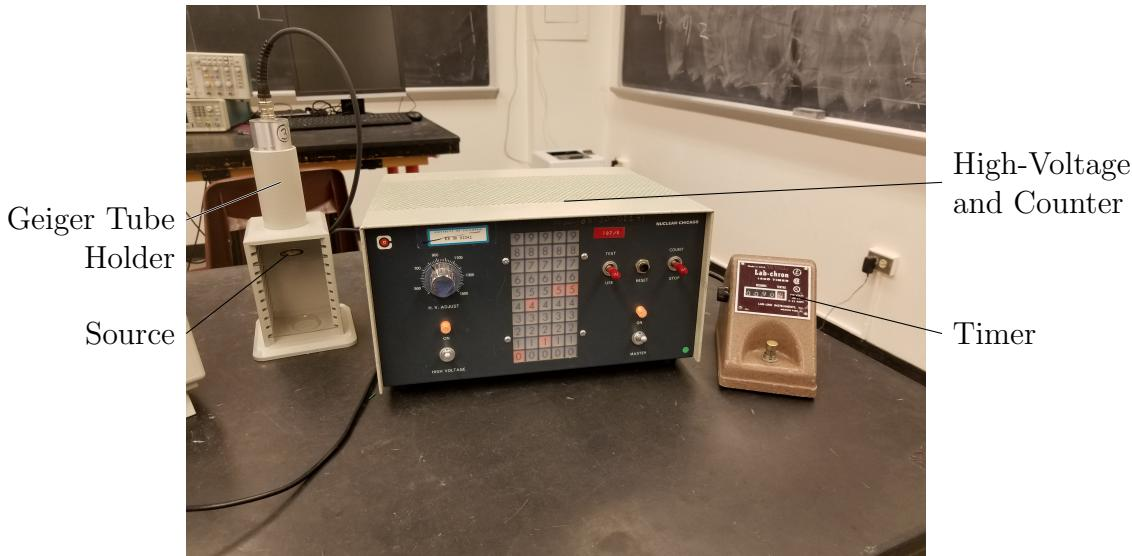

Figure 8.2: The Geiger Counter assembly.
To begin, you will familiarize yourself with the counter and timer features of your Geiger counter assembly using the built-in test mode. Your lab bench will already be prepared with a Geiger Counter assembly as shown in Fig. 8.2. Ensure that the high-voltage (HV) is off by turning the knob labeled “H.V. Adjust” counter-clockwise all the way to zero. Now put the Geiger counter into test mode by flipping the left red switch to “TEST”. Flip the right red switch to “COUNT” and you should see the counter display begin incrementing. Push the button on the front of your timer and you should see the Timer turn on and off. Leave the timer incrementing. Now flip right red switch to “STOP”, and observe that the both the counter and the timer stop simultaneously. The knob on left side of the old-school lab timer can be used to reset the time. Keep turning the knob clockwise until the time reads 0. Use the black button on the Counter to reset the count to zero.